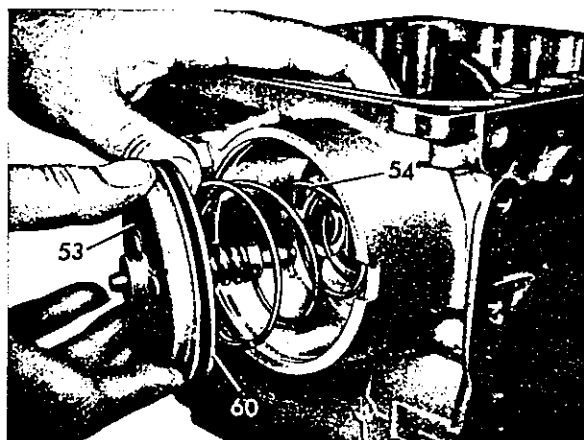

Fig. 23
32 Remove brake band piston B 3 (53) and conical spring (54) Fig. 23